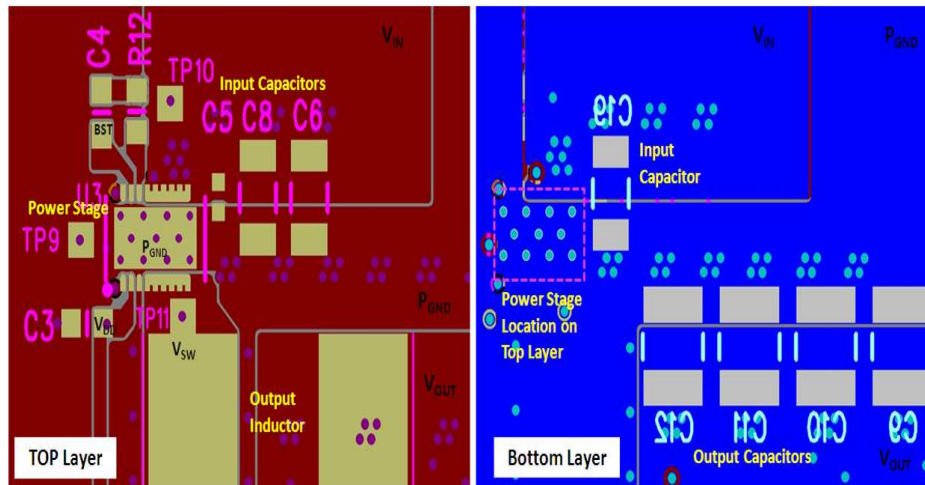

Figure 16. Recommended PCB Layout (Top Down View)
- The placement of the input capacitors relative to V_{IN} and P_{GND} pins of CSD95375Q4M device should have the highest priority during the component placement routine. It is critical to minimize these node lengths. As such, ceramic input capacitors need to be placed as close as possible to the V_{IN} and P_{GND} pins (see Figure 16). The example in Figure 16 uses 1 \times 1 nF 0402 25 V and 3 \times 10 μ F 1206 25 V ceramic capacitors (TDK Part # C3216X5R1C106KT or equivalent). Notice there are ceramic capacitors on both sides of the board with an appropriate amount of vias interconnecting both layers. In terms of priority of placement next to the Power Stage C5, C8 and C6, C19 should follow in order.
- Use the smallest drill size allowed in your design. The example in Figure 16 uses vias with a 10 mil drill hole and a 16 mil capture pad.